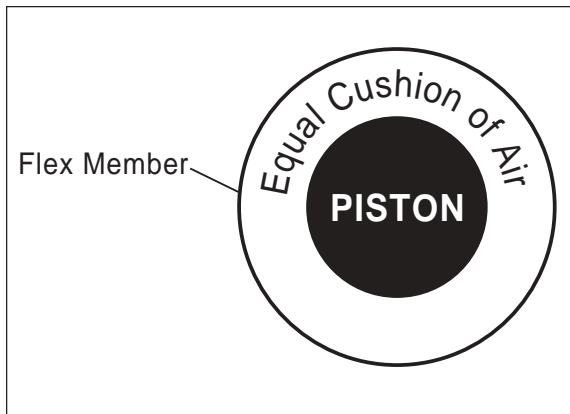

Figure 16
2. Use the slotted adjustment in the lower bracket to correctly align the air spring between the upper and lower brackets. This can be accomplished by lightly tapping it inboard or outboard for proper alignment. There should be a symmetrical cushion of air around the base of the air spring when correctly positioned (Figure 16).
5. On the driver-side, it may be necessary to secure the emergency brake cable away from the air spring using straps (BB) to prevent rubbing. Tie both cables together where they cross each other.